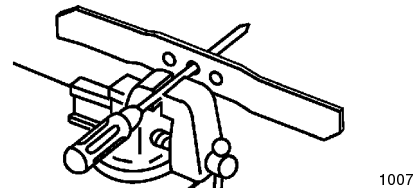

Figure 33
1. Check the balance of the blade by placing the center hole of the blade over a nail or a screwdriver shank clamped horizontally in a vise (Fig. 33).